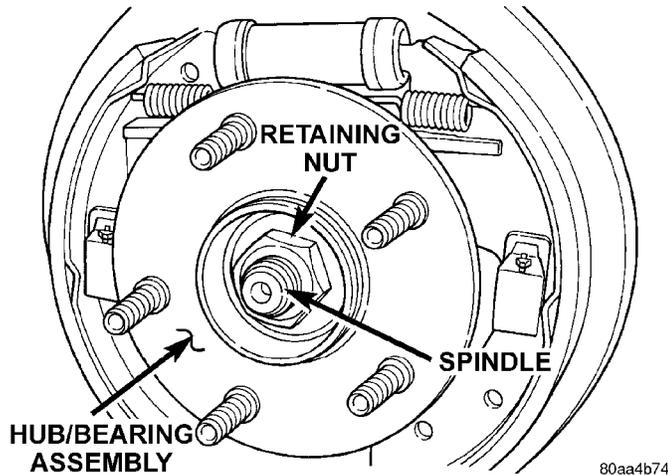

Fig. 14 Hub/ Bearing Retaining Nut
(6) Remove rear hub/bearing retaining nut (Fig. 14). Then remove the hub/bearing from the knuckle.
(9) Install rear hub and bearing assembly on knuckle. Install hub and bearing assembly retaining nut (Fig. 14), and torque to 217 N·m (160 ft. lbs).
(10) If vehicle is equipped with rear disc brakes, install rear braking disc on hub. If vehicle is equipped with rear drum brakes, install the brake drum on hub.
(11) If vehicle is equipped with rear disc brakes, install rear braking disc on hub. Carefully install rear brake caliper over braking disc and install on adapter. Tighten the caliper assembly to adapter mounting bolts to 22 N·m (192 in. lbs.). Refer to Rear Disc Brakes in Group 5 Brakes in this service manual for required caliper installation procedure.
(12) Install wheel and tire assembly on vehicle. Tighten the wheel mounting stud nuts in proper sequence until all nuts are torqued to half specification. Then repeat the tightening sequence to the full specified torque of 135 N·m (100 ft. lbs.).
(13) Lower vehicle.
(14) With suspension supporting total weight of vehicle, and lateral links at correct curb height, torque both lateral link attaching bolts to 95 N·m (70 ft. lbs.).
(15) Check and reset rear wheel TOE to specifications if required. Refer to Front And Rear Toe Setting Procedure in the Wheel Alignment Check And